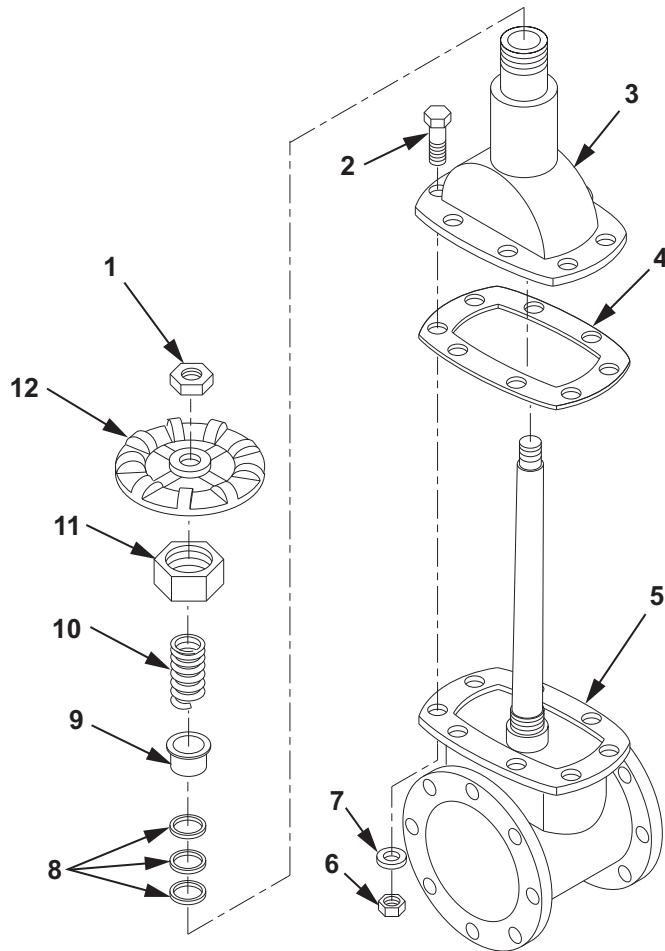

Figure 1. 4 In. gate Valve Disassembly.
1. Remove wheel nut (Figure 1, Item 1) and handwheel (Figure 1, Item 12) from gate valve (Figure 1, Item 5).
2. Remove packing nut (Figure 1, Item 11) by hand. Remove gland spring (Figure 1, Item 10), packing retainer (Figure 1, Item 9) and three packing rings (Figure 1, Item 8) from bonnet (Figure 1, Item 3).
3. Discard packing rings (Figure 1, Item 8) and packing retainer (Figure 1, Item 9).
4. Remove eight nuts (Figure 1, Item 6), lockwashers (Figure 1, Item 7) and screws (Figure 1, Item 2) from bonnet (Figure 1, Item 3).
5. Discard lockwashers (Figure 1, Item 7).
6. Remove bonnet (Figure 1, Item 3) and bonnet gasket (Figure 1, Item 4) from gate valve (Figure 1, Item 5).
7. Discard bonnet gasket (Figure 1, Item 4).